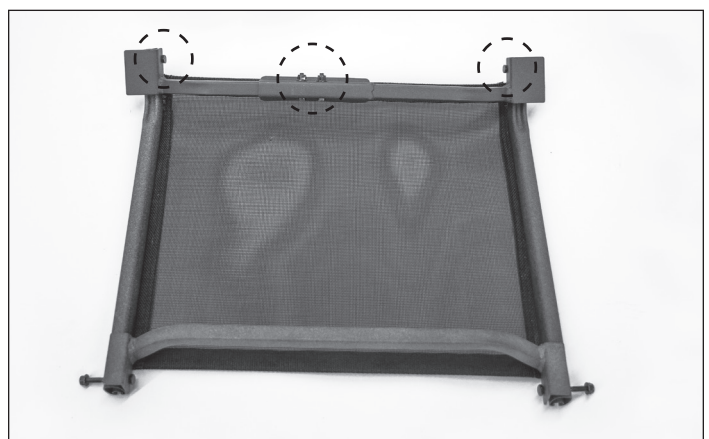

FIGURE 14 - Tighten front brace bolts and locknuts (4)
i. Tighten all (4) bolts and locknuts on the front hinged brace at this time. **SEE FIGURE 14.** This will tighten up the side rails of the seat to the braces and square up the entire seat.